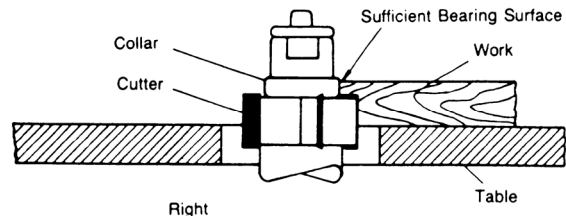
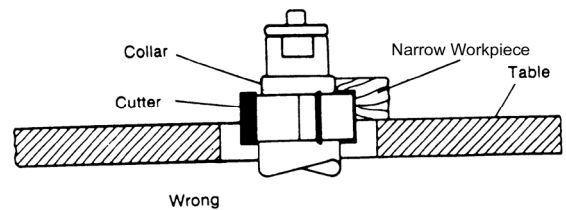

Figure 14
Figure 15
4. The work must be fairly heavy in proportion to the cut being made. See Figure 14. Under no circumstances should a small workpiece be shaped against the collars as shown in Figure 15.